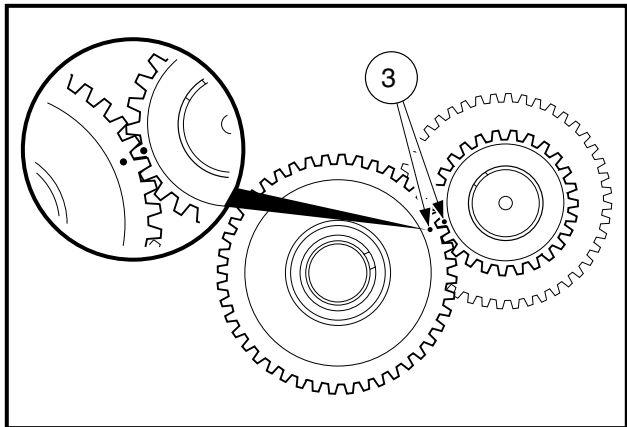

Figure 2-97 Align Timing Marks
3. Align the timing marks (3) (Figure 2-97, Page 2-42). See following **NOTE**.